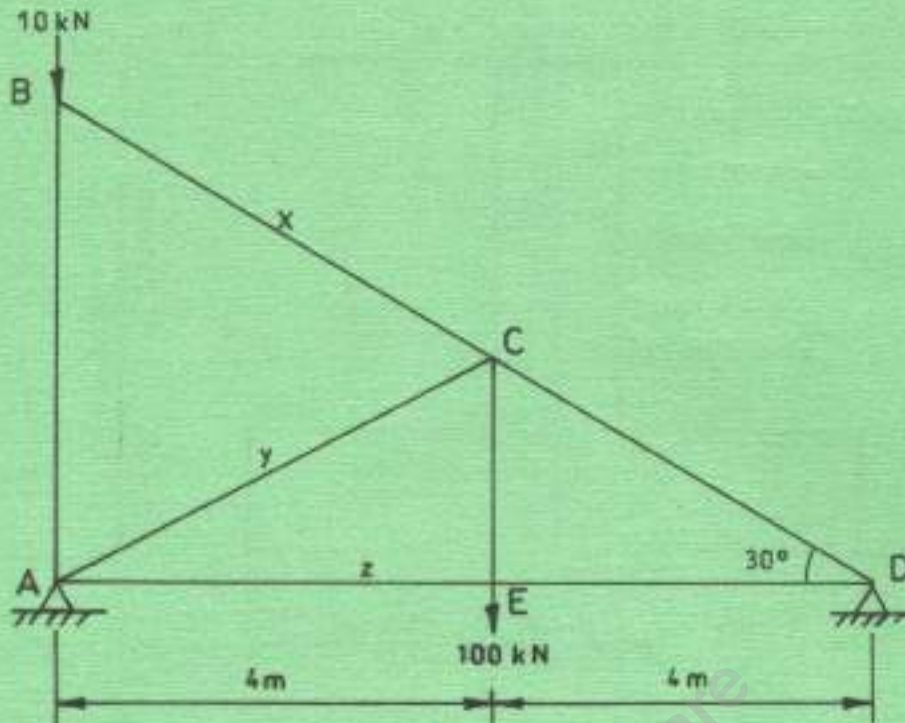

Fig. 4
3. (a) Using the method of section, analyse the forces and state the members x , y and z for the plane frame shown in figure 4.